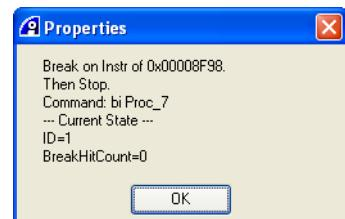

Figure 11-10 Full breakpoint details
4. Select **Properties** from the context menu. The full breakpoint details are displayed. Figure 11-10 shows an example: